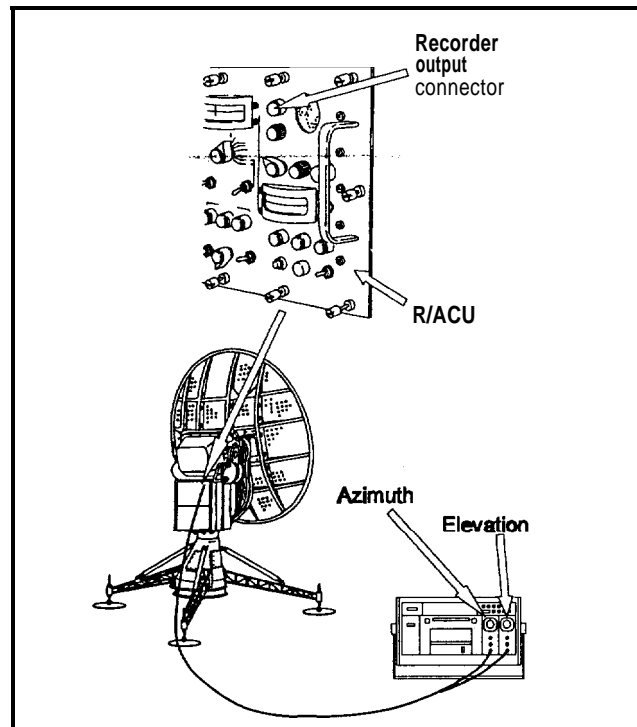

Figure 9
5. Connect the recorder to the ART-1/2 with the 25 ft. interface cable as shown. Connect the single Amphenol connector to the recorder output jack on the front panel of the R/ACU as shown in Figure 9. Connect the two connectors to the recorder signal conditioners. Use the left hand signal conditioner for azimuth and the right hand for elevation. The connectors are labeled “Azimuth” and “Elevation”.